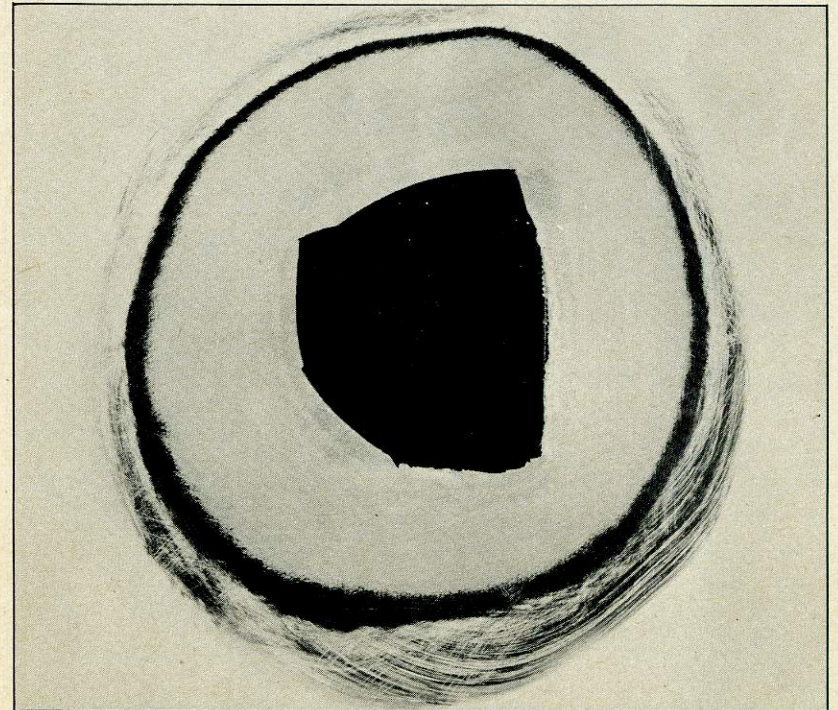

Figure 15
3. Remove the paint with Dupont Lacquer Solvent #39012 or its equivalent, (fig. 15).